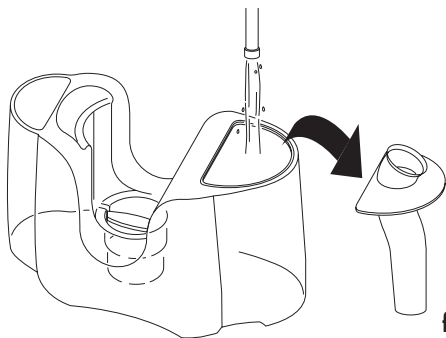

fig. 4
- To use the appliance as a **vacuum cleaner**, a minimum of 2.5 litres of water should be poured into the tank; do not exceed the maximum level of 4 litres marked on the tank. The suction conveyor **J** can be removed to simplify filling the tank, (Fig. 4).